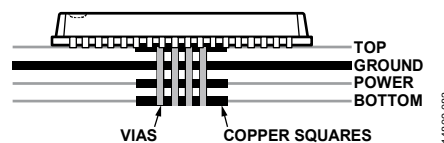

Figure 87. Exposed Pad Layout Example—Side View
- Place a copper layer, equal in size to the exposed pad, on all layers of the PCB, from top to bottom. Connect the copper layers to a dedicated copper PCB layer (see Figure 87).